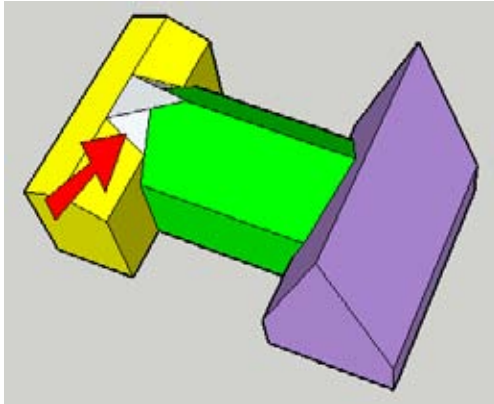

Figure 5-62
12. Complete the intersection by adding the line indicated in Figure 5-62, on both sides.